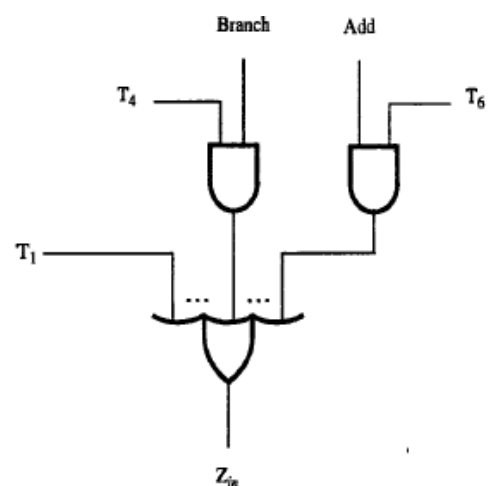

Figure 7.12 Generation of the Z_{in} control signal
- For example (Figure 7.12), $Zin = T1 + T6.ADD + T4.BR$